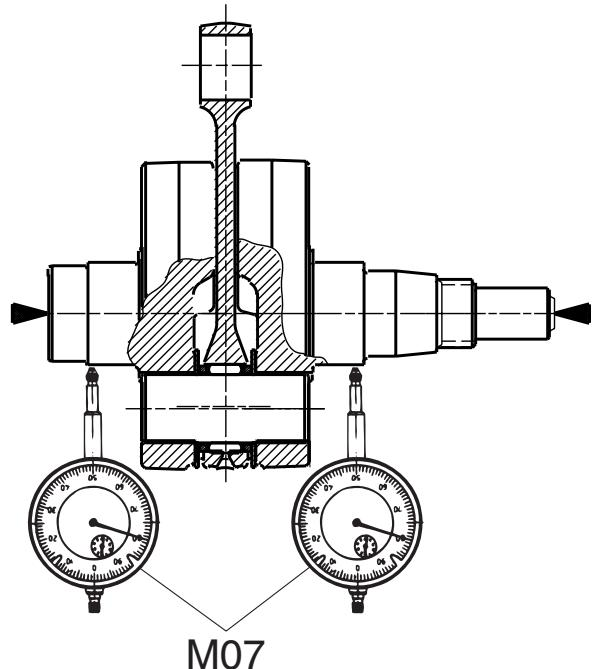

Fig. 46
- ✓ Inspect the alignment of the crankshaft as shown in Fig. 46.